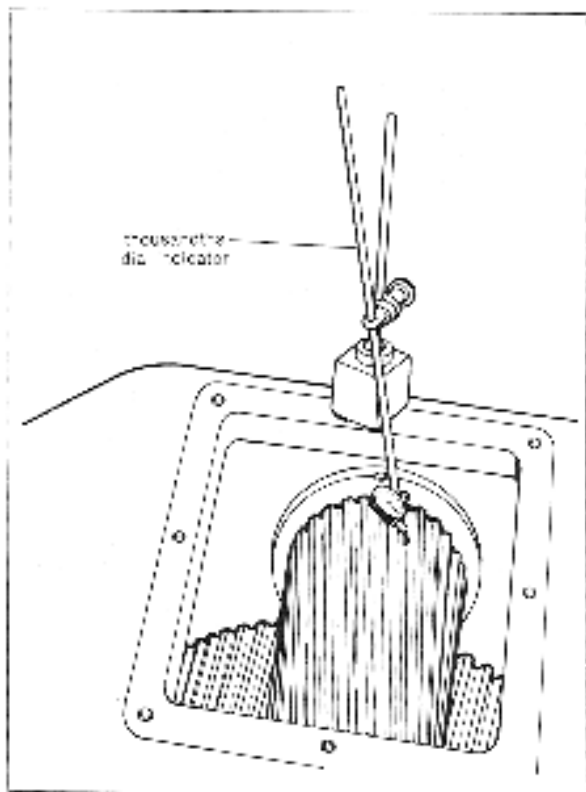

Fig. 40. Checking 'Backlash' with Thousandths Dial Indicator.
- b.) Locate thousandths dial indicator on housing with tip resting on side of idler tooth (similar to figure 40).